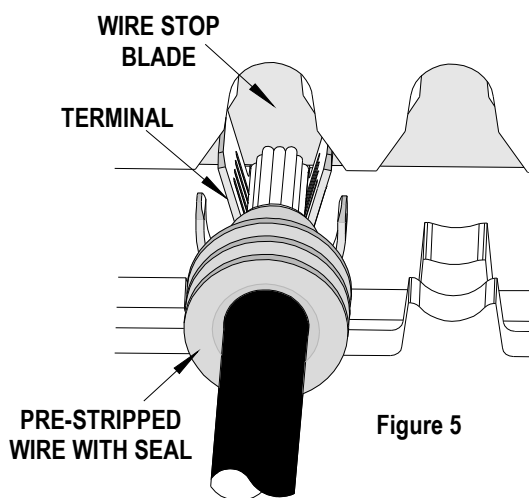

Figure 5
8. Gently touch the wire stop with the end of the wire and align the seal with the grips on the terminal. See Figure 5 and 6.